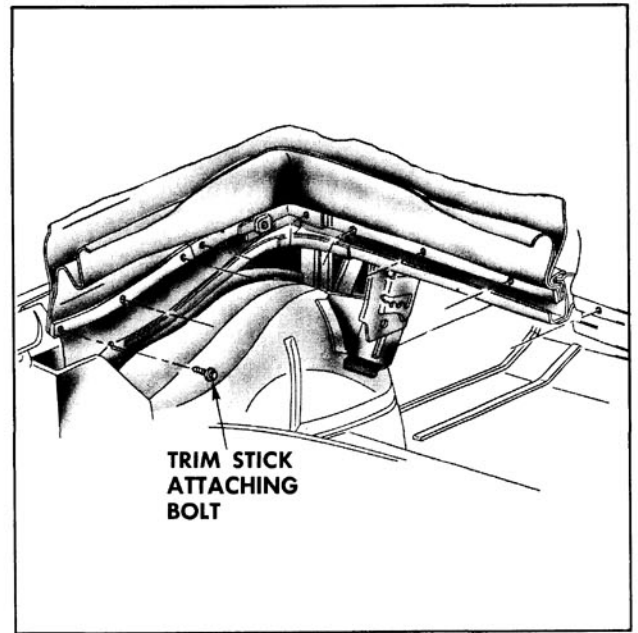

Fig. 16-434 Locating Edge of Top Material
12. To establish relationship of right and left inner vertical edge of old top material to back curtain assembly at rear trim stick location, mark back curtain vinyl at both locations with a grease pencil. (Fig. 16-434) Reference marks should be transferred to new back curtain when Step 6 of installation procedure is performed.